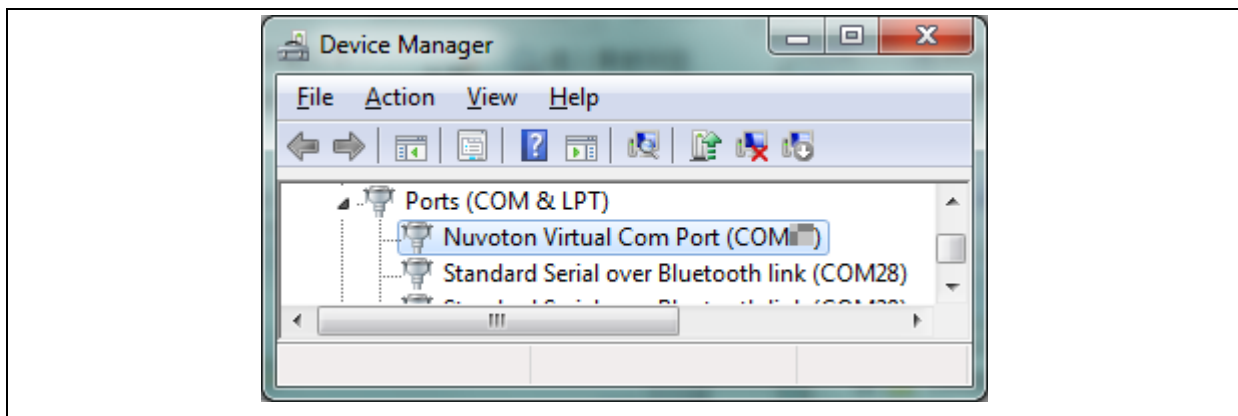

Figure 3-5 Device Manger
3. Find the "Nuvoton Virtual COM Port" on the Device Manager as Figure 3-5.